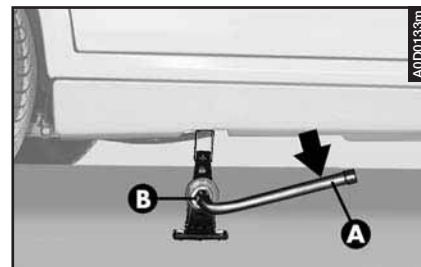

fig. 8
– Fit the L-wrench (**A-fig. 8**) on the jack pin (**B**).